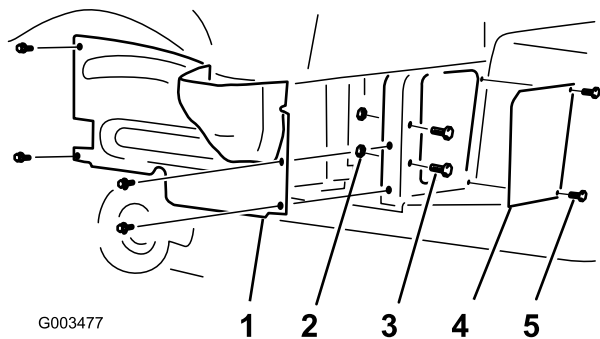

Figure 1
2. Remove the 4 flange-head screws that secure the right-hand wheel shroud to the frame (Figure 1).
4. Remove the 2 screws, 2 bolts, 2 washers and 2 nuts that secure the screen panel to the frame (Figure 1).